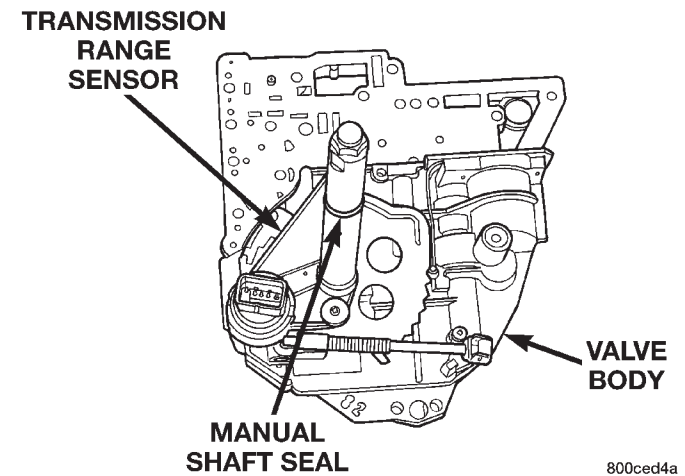

Fig. 27 Valve Body W/TRS
- (1) Disconnect battery negative cable.
- (2) Remove engine air cleaner and tube.
- (3) Remove gearshift cable.
- (4) Remove manual valve lever.
- (5) Disconnect transmission range sensor connector.
- (6) Hoist vehicle.
- (7) Carefully remove transaxle oil pan and drain fluid.
- (8) Remove transaxle oil filter. Let transaxle oil drain fully.
- (9) Remove valve body retaining bolts.
- (10) Extract park rod from guide bracket and remove valve body from transaxle.
- (11) Place valve body on workbench (Fig. 27).